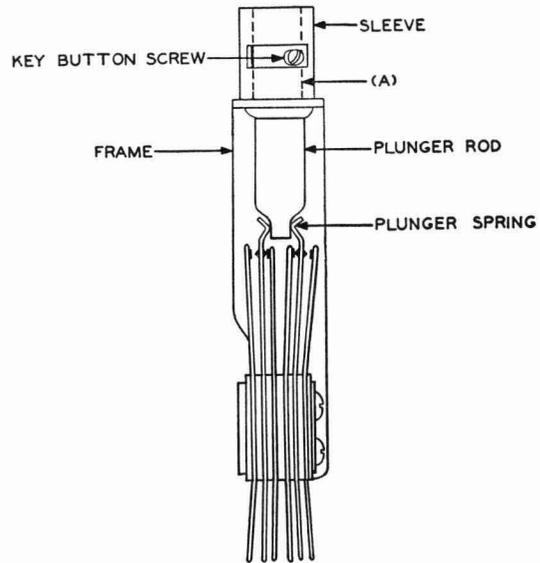

Fig. 5—585-type Key Equipped With One-piece Plunger
- (b) **552- and 585-type Keys:** Fig. 5(A)—The plunger rod shall turn freely in the sleeve of the frame.